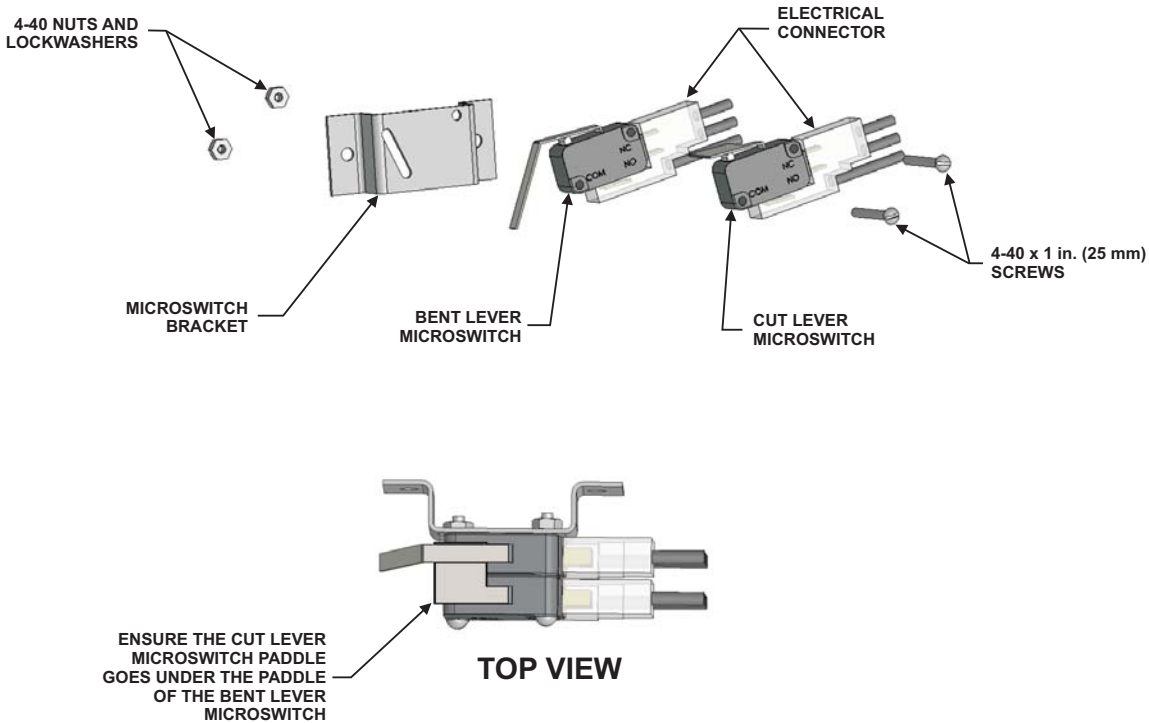

Figure 4-50. Dual SPDT Microswitches and Mounting Bracket, P/N 60-9197228-000
3. Mount the microswitches to the mounting bracket. Ensure the cut lever microswitch paddle goes under the paddle of the bent lever microswitch. Refer to Figure 4-50: